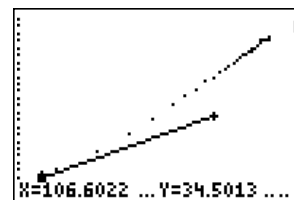

Figure 30
- Move to the right side of the plot, and select an ending point for this new line (Figure 30).